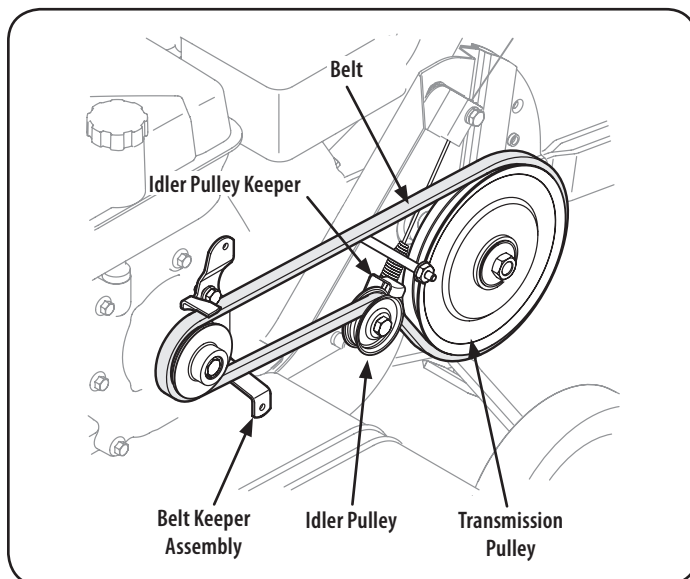

Figure 28
2. Remove the idler pulley bolt and move the belt from under the idler pulley keeper. See Figure 28.
3. Remove the belt keeper assembly located behind the engine pulley by removing the two hex bolts and lock washers. See Figure 28.
4. Remove the old belt from around the transmission pulley and install the new belt. See Figure 28.